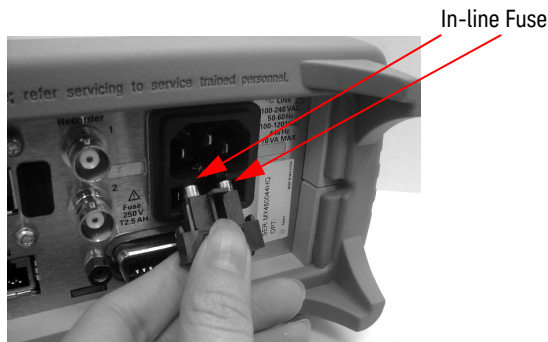

Figure 10-3 Replacing the fuses
- 1 Slide the fuse holder assembly from the rear panel as shown in **Figure 10-3**.
- 2 Install the correct fuses in the respective “In line” positions as shown in **Figure 10-3**. (The N1913A/1914A requires two fuses.)